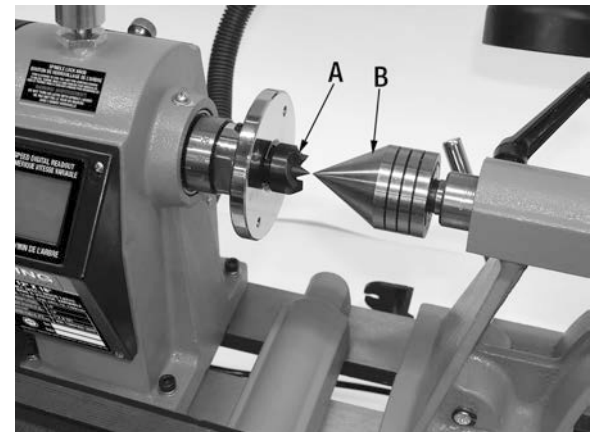

FIGURE 14
It is extremely important that the spur centre (A) Fig.14 installed in the headstock spindle be perfectly aligned with the live centre (B) installed in the tailstock. The headstock was not securely bolted up to now to allow this adjustment.